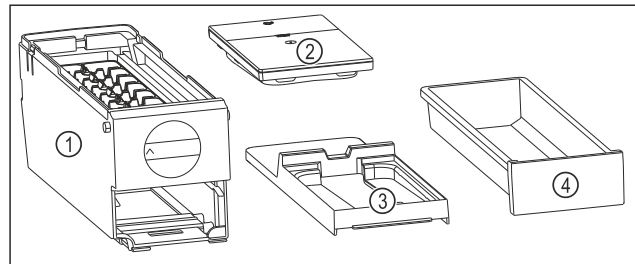

Fig. 113 Components of the EasyTwist-Ice
- ▷ EasyTwist-Ice is disassembled in four parts. (see Fig. 113)
- ▶ Only disassemble the EasyTwist-Ice into the illustrated components. (see Fig. 113)
- ▶ Clean the EasyTwist-Ice body Fig. 113 (1) as a complete unit.